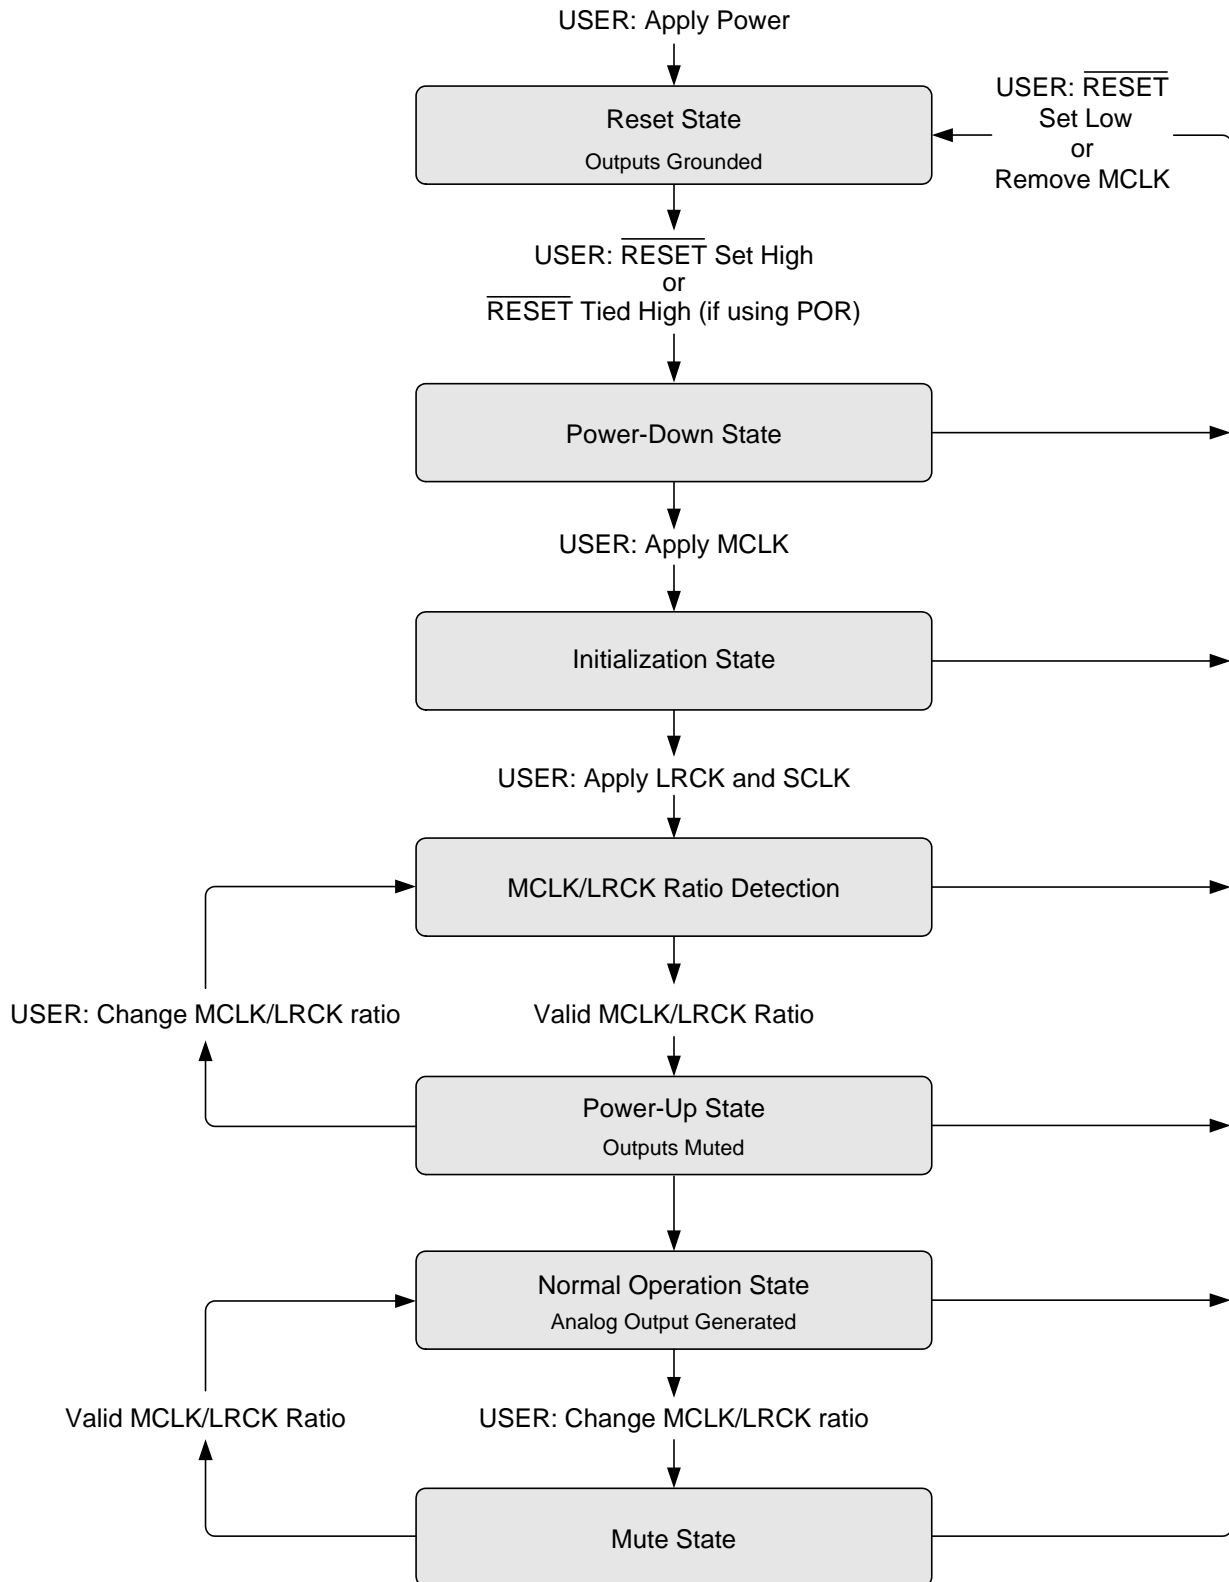

Figure 9. Initialization and Power-Down Sequence Diagram
The CS4353 operates in one of three operational modes. The device will auto-detect the correct mode when the input sample rate ( $F_s$ ), defined by the LRCK frequency, falls within one of the ranges illustrated in Table 3. Sample rates outside the specified range for each mode are not supported. In addition to a valid LRCK frequency, a valid serial clock (SCLK) and master clock (MCLK) must also be applied to the device for speed mode auto-detection; see Figure 9.
See Figure 9 for a diagram of the device's states and transition conditions.
4. After the power supplies, configuration pins, and clock signals are stable, bring  $\overline{\text{RESET}}$  high. The device will initiate the power-up sequence seen in Figure 9. The sequence will complete and audio will be output from AOUTx within 50 ms after  $\overline{\text{RESET}}$  is set high.
3. After the power supplies and configuration pins are stable, provide the correct MCLK, LRCK, and SCLK signals to progress from the 'Power-Down State' in the power-up sequence seen in Figure 9. The sequence will complete and audio will be output from the AOUTx pins within 50 ms after valid clocks are applied.